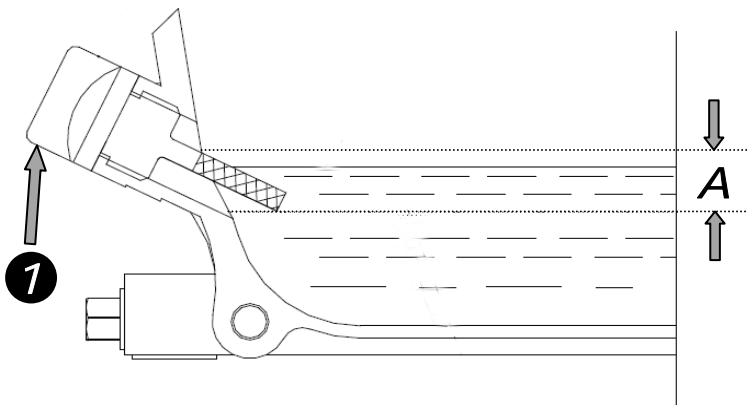

Fig.17
1. Use clean, high quality detergent oils. Do not mix oil with gasoline. When reach "A" zone (Fig.17) that will be ok.
3. Always check oil level dipstick ① (Fig.17) before starting engine. Refer to engine manual for capacity and type of oil to use.